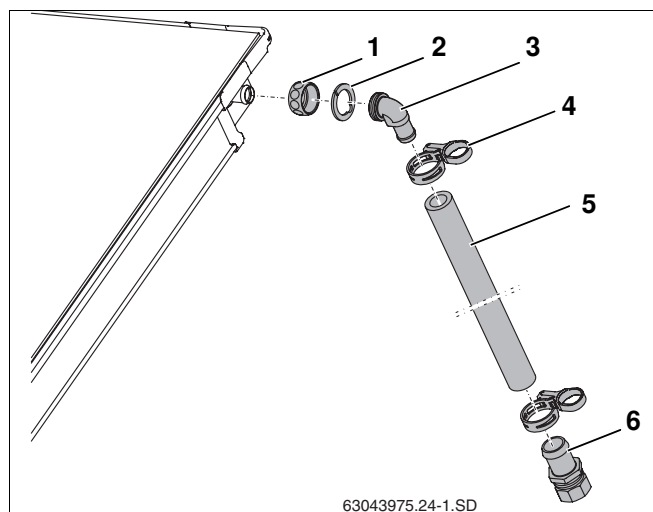

Fig. 35 Fitting flow line
- Push nut (Fig. 35, **Item 1**) over the collector connections.
- Place the clamping disc (Fig. 35, **Item 2**) behind the head on the collector connection and press together.
- Press angled nozzle with O-ring (Fig. 35, **Item 3**) onto connection, align and bolt together with nut.
- Push long solar hose (1000 mm, Fig. 35, **Pos. 5**) onto the angled nozzle and fix in place using hose clip (Fig. 35, **Item 4**).
- Insert hose nozzle with compression fitting (Fig. 35, **Item 6**) into the solar hose as far as it will go, and fix in place with hose clip.
- Connect header pipe to the R $\frac{3}{4}$ hose nozzle with compression fitting (15 mm) (Fig. 35, **Item 6**).